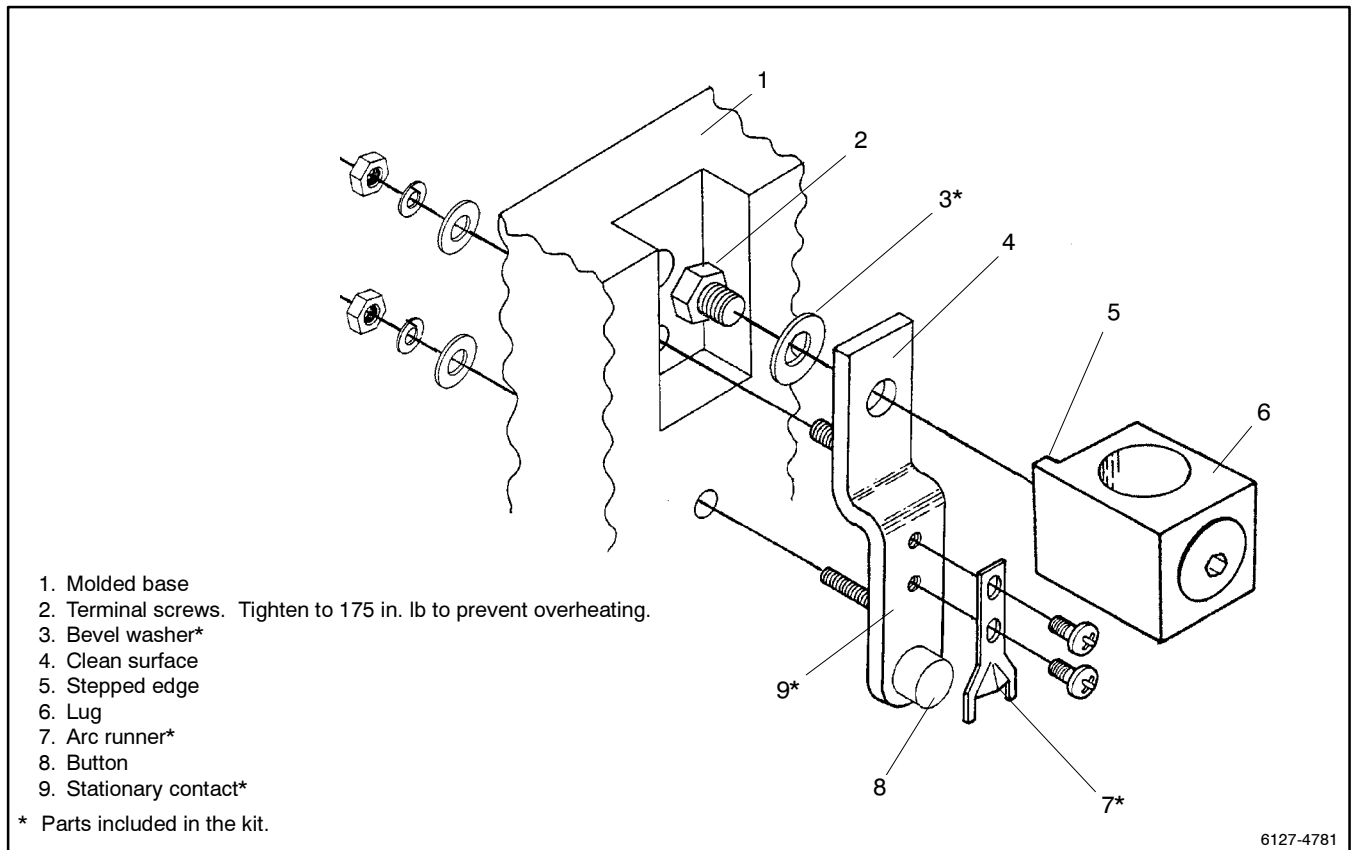

Figure 6-5 Stationary Contact
The stationary contacts are mounted in the molded base. They are secured from the back and screwed to the terminal lugs. See Figure 6-5.
Reassemble as shown in Figure 6-5.
- c. From the back, insert the terminal screw with a *new* bevel washer through the stationary contact plate into the terminal lug (with the stepped edge on the side as shown in Figure 6-5).